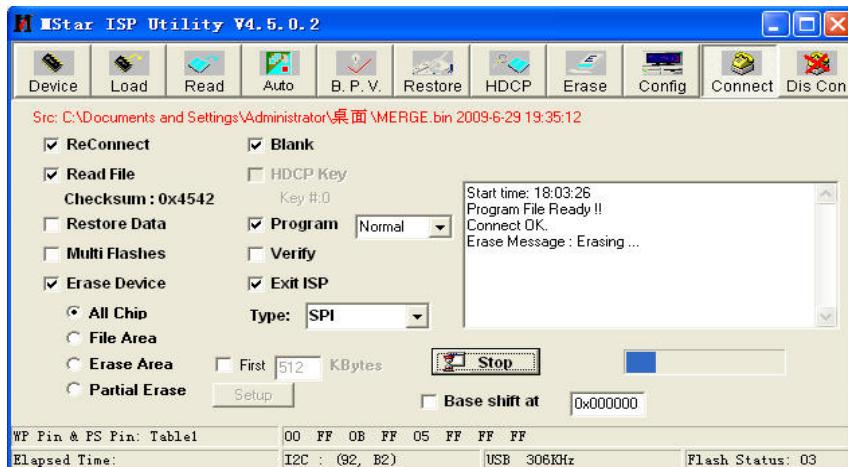

Fig. 5 Burning Configuration
- 5) Select menu “Auto”, then select items “All chip”, “program” and other configuration as Fig. 5